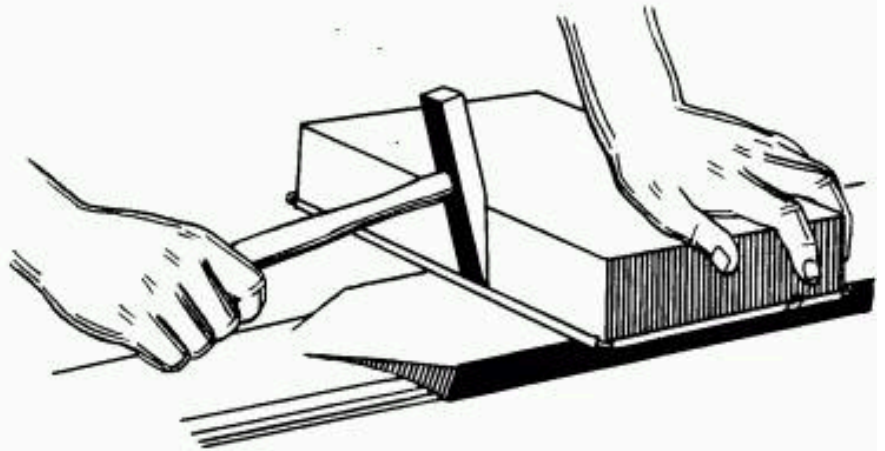

FIG. 15 COMPLETING THE WIRED EDGE
14. With the peen of the setting hammer, complete the wired edge by peening the metal down tightly over the wire on the four sides. (Fig. 15).